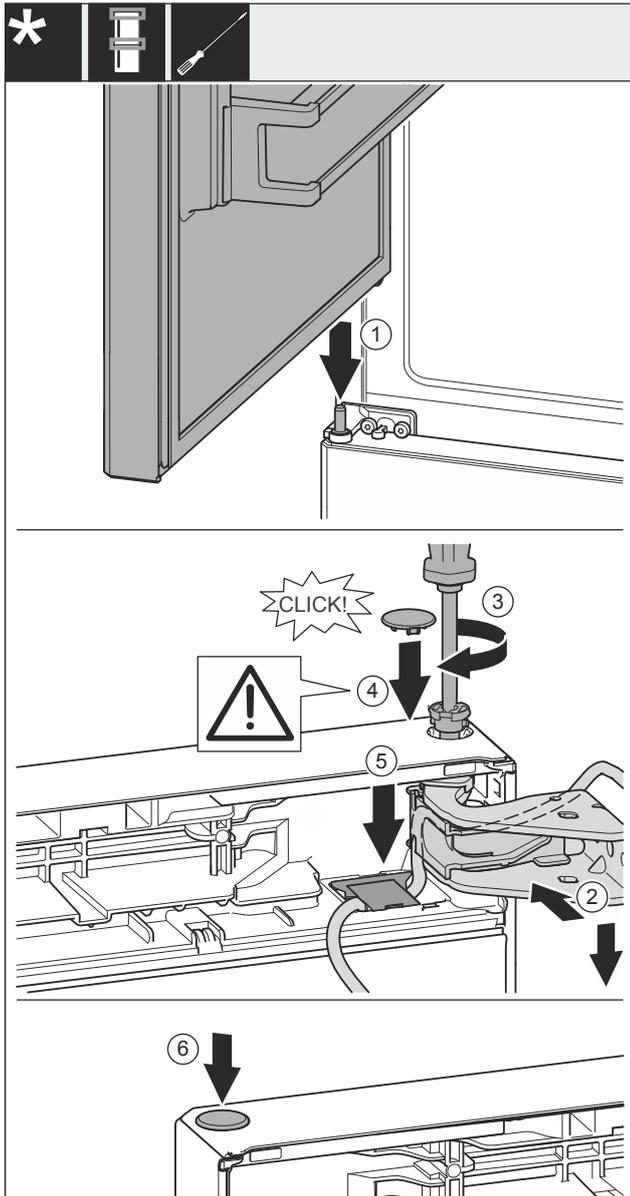

Fig. 46
- ▶ Place the top door on the centre bearing bolt Fig. 46 (1).
- ▶ Align the top door with the opening in the swap bearing block Fig. 46 (2).
- ▶ Insert the bolt Fig. 46 (3) and use screwdriver to tighten it.
- ▶ Insert the cover Fig. 46 (4).
- ▶ Check that the cover Fig. 46 (4) is resting on the door.
- ▶ Insert the cover Fig. 46 (5) and push down until it engages.
- ▶ Insert the cover Fig. 46 (6).